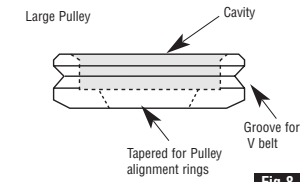
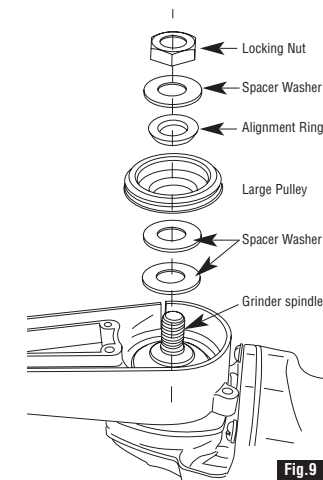

Fig.8
Fig.9
• Fit the large pulley ⑩ with the cavity facing up (see fig.8) over the grinder spindle ②, using spacer washers supplied ①① underneath the large pulley to adjust it to the correct height (see fig.9). The large pulley needs to be at a similar height to the small pulley which is already fitted.
**NOTE:** The large pulley ⑩ can be fitted to the Grinder spindle ② with the cavity facing up or down (see fig.8). Depending on your grinder model, check which best suits the particular configuration of the spindle. If the large pulley ⑩ is fitted with cavity down, ensure to position the pulley alignment ring ⑩② on the Grinder spindle ② before fitting the large pulley ⑩.